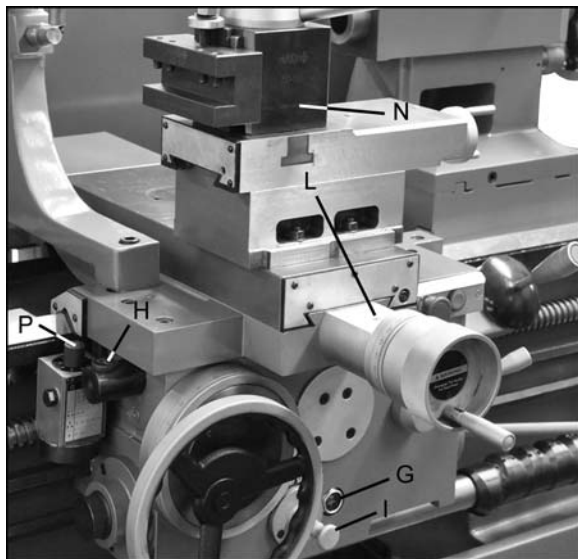
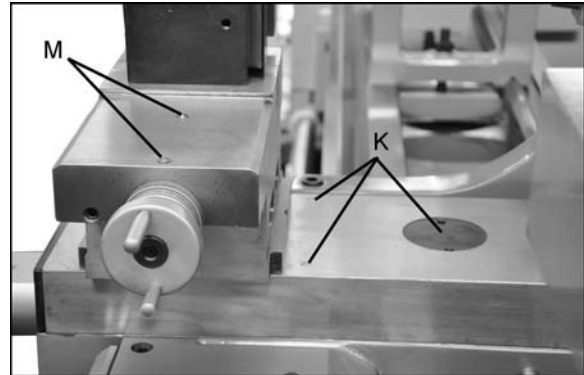

Figure 11 – Lubrication points
Figure 12 – Lubrication points
6. **Apron** – Oil must be between indicator marks in the oil sight glass (G, Figure 11). Top off with SAE 20W oil. Unscrew oil plug (H, Figure 11) to fill. To drain, remove drain plug on the underside of apron. Drain oil completely and refill after the first three months of operation. Then, change oil in the apron annually.
7. **One-shot Lube System:** Pull knob (I, Figure 11) and hold for several seconds to allow oil to fill the pump from the apron reservoir. Then release the knob which will push the oil
8. **Threading Dial** – Frequently lubricate via one ball oiler (P, Figure 11) on top of the dial with SAE 20W oil.
9. **Cross Slide** – Daily lubricate one ball oiler on the handwheel housing (L, Figure 11) and three ball oilers on the platform (K, Figure 12), with SAE 20W oil.
11. **Compound Rest** – Daily lubricate two ball oilers (M, Figure 12) on top of compound rest with SAE 20W oil.
12. **Tool Post** – Regularly clean dirt and coolant from around the tool post to maintain its re-positioning accuracy (N, Figure 11).